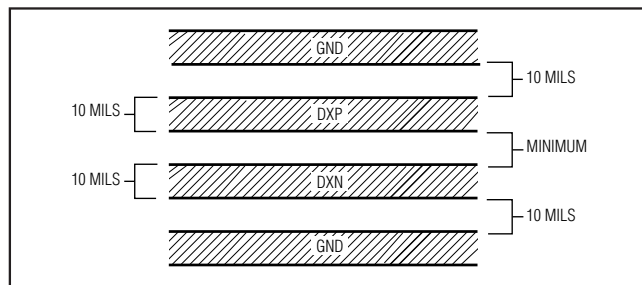

Figure 4. Recommended DXP-DXN PC Traces
- 3) Route the DXP and DXN traces in parallel and in close proximity to each other, away from any higher voltage traces, such as 12VDC. Leakage currents from PC board contamination must be dealt with carefully since a 20M Ω leakage path from DXP to ground causes about 1°C error. If high-voltage traces are unavoidable, connect guard traces to GND on either side of the DXP-DXN traces (Figure 4).
6) Use wide traces. Narrow traces are more inductive and tend to pick up radiated noise. The 10mil widths and spacing recommended in Figure 4 are not absolutely necessary, as they offer only a minor improvement in leakage and noise over narrow traces. Use wider traces when practical.